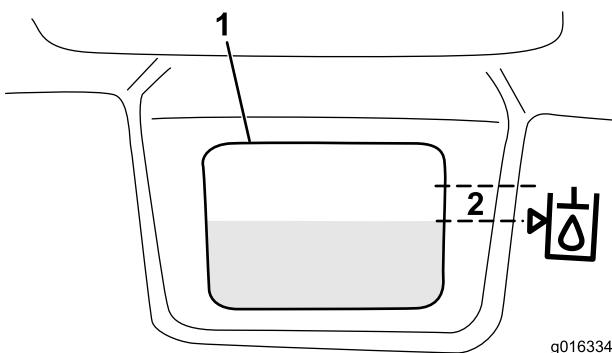

Figure 30
3. Slowly fill the reservoir with the appropriate hydraulic fluid until the level is at or within 0.25 inch (6 mm) of the arrow in the symbol next to the white window in the front of the reservoir (Figure 30). Do not overfill.